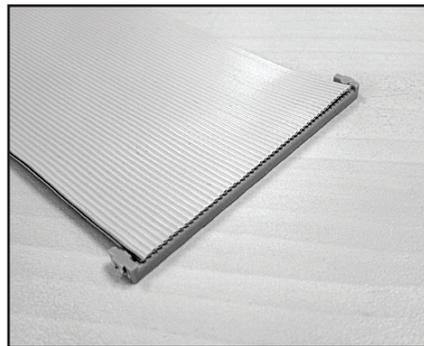

Figure 6
- b. Cable end is flush with the cover for end terminations or perpendicular to cover for midspan terminations. (Figure 6)